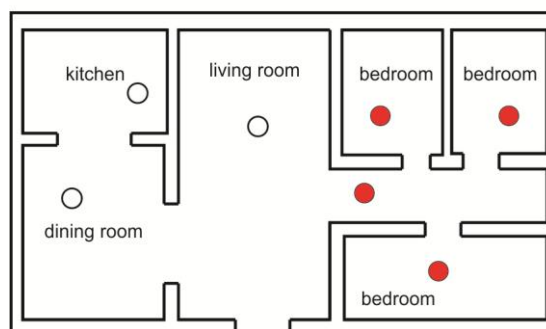

Fig. 7 Make sure the smoke alarm
- Make sure the smoke alarm is always accessible for testing and cleaning (Figure 7).